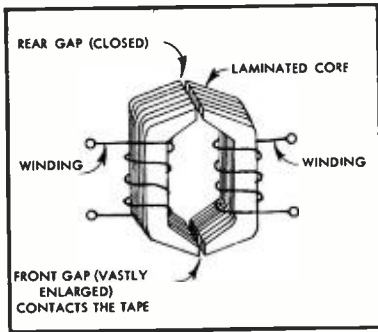
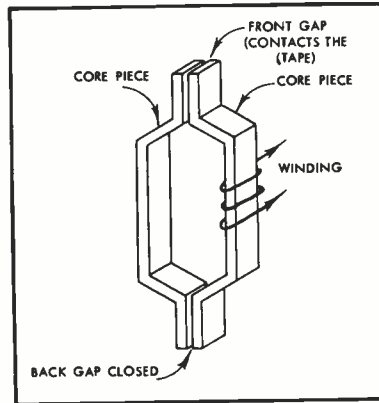
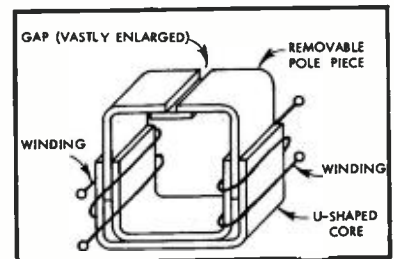
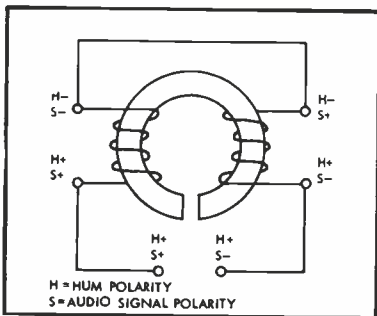

Fig. 3. Tape head of laminated construction.
Fig. 4. Tape head of non-laminated construction.
Fig. 5. Another type of non-laminated tape head.
Fig. 6. Connecting the dual windings of a tape head in series for maximum voltage output and for hum cancellation.
3. *Head Construction.* Heads are basically of two types, laminated and non-laminated, as illustrated in Figs. 3 and 4. The laminated head tends to have greater output because of its greater volume of magnetic material. Moreover, the laminations serve to reduce eddy current losses (by interrupting eddy current flow), which increase with frequency.
Figure 5 shows another type of non-laminated head, whose gap has considerably less depth than in Figs. 3 and 4. This means that the gap wears more
4. *Hum-Bucking Windings.* Whereas the heads in Figs. 3 and 5 each have two sets of windings, the head in Fig. 4 has only one winding. Two windings are desirable because this permits connecting them in series so as to balance out hum and at the same time increase voltage output. The manner of connection is illustrated in Fig. 6. Hum polarity tends to be the same at each output terminal, so that there is little or no hum potential between the terminals. On the other hand, the signal polarity at one terminal is positive when the other is negative.